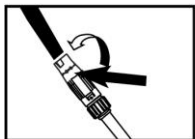
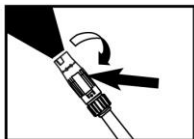

Fig 1
Fig 2
Turn off the spray lance first, hold the rear part of spray nozzle, then turn the front part of spray nozzle clockwise, Water may be sprayed out from the spray nozzle in fan shapes (fig 2); Turn the front part of spray nozzle anti-clockwise, Water may be sprayed out from the spray nozzle linearly (fig 1).
**CAUTION:** Water should be sprayed out from the spray nozzle in fan shapes (fig 2),when cleaning the car or other vehicle.